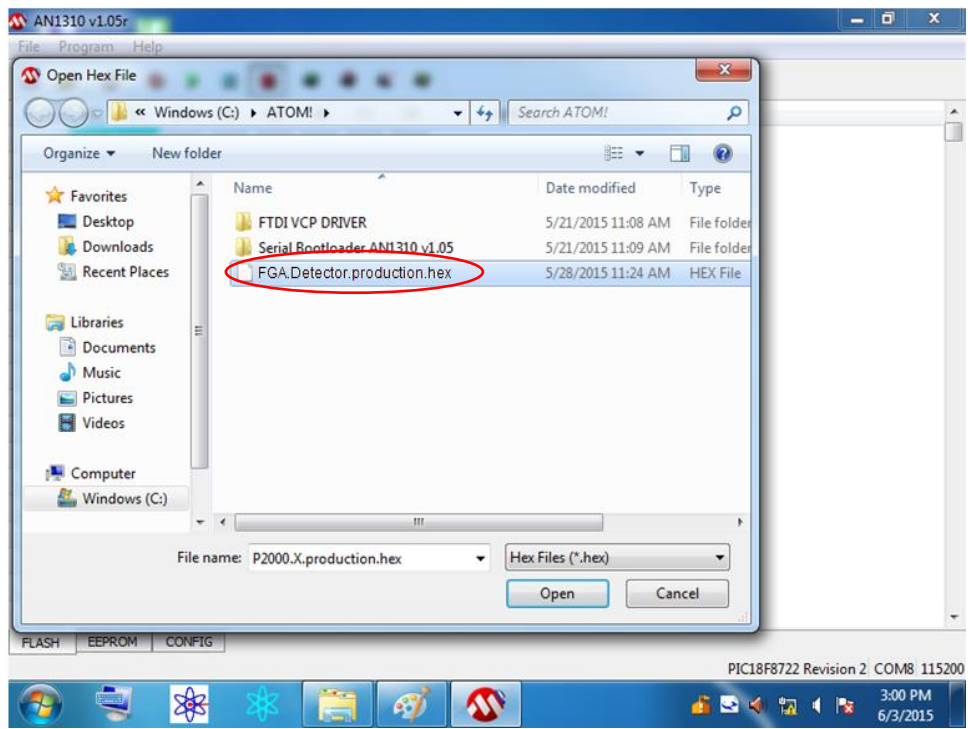

Figure 3.18
7. Select the **FGA.detector.production.hex** file located in **C:\ATOM!** directory and click **Open** (Figure 3.18).